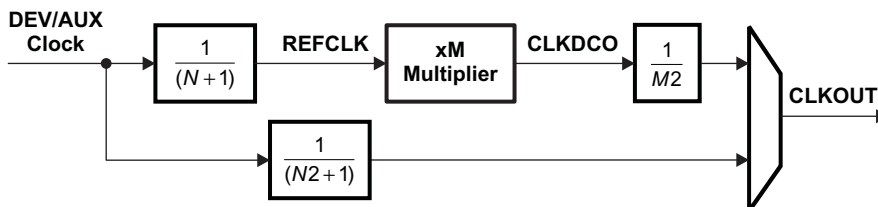
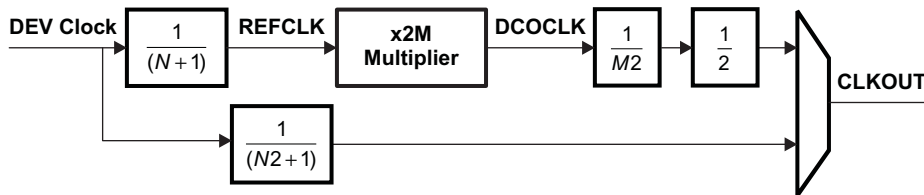

Figure 7-16. Top-Level PLL Simplified Block Diagram
Figure 7-17. PLL\_ARM Simplified Block Diagram
The device contains 12 top-level PLLs, and 4 embedded PLLs (within the ARM Cortex-A8, PCIE, SATA, and CSI) that provide clocks to different parts of the system. Figure 7-16 and Figure 7-17 show simplified block diagrams of the Top-Level PLL and PLL\_ARM. In addition, see the System Clocking Overview (Figure 7-6) for a high-level view of the device clock architecture including the PLL reference clock sources and connections.
(1) This parameter describes the limits on the programmable multiplier value M. The multiplication factor for the PLL\_ARM is equal to  $2 * M$  (also see Figure 7-17).
(2) The PLL Multiplier supports fractional values (up to 18-bits of fraction) except when the PLL Multiplier is < 20 OR > 2045.